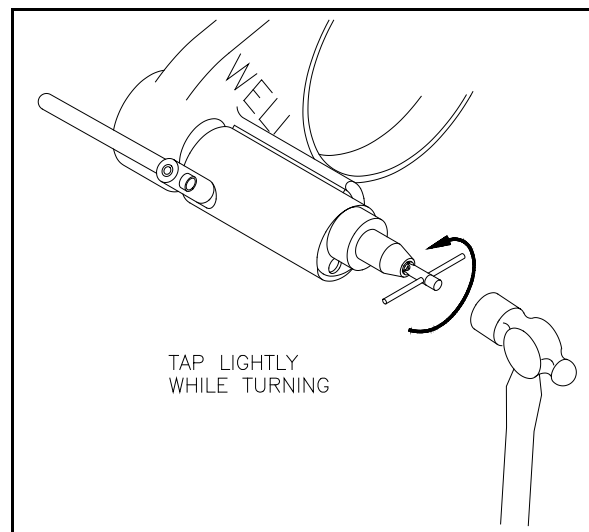

Figure 7.
- 6.4.3 Insert the collet wrench. Tap the end of the collet wrench **LIGHTLY** while turning the collet wrench counterclockwise. See Figure 7.